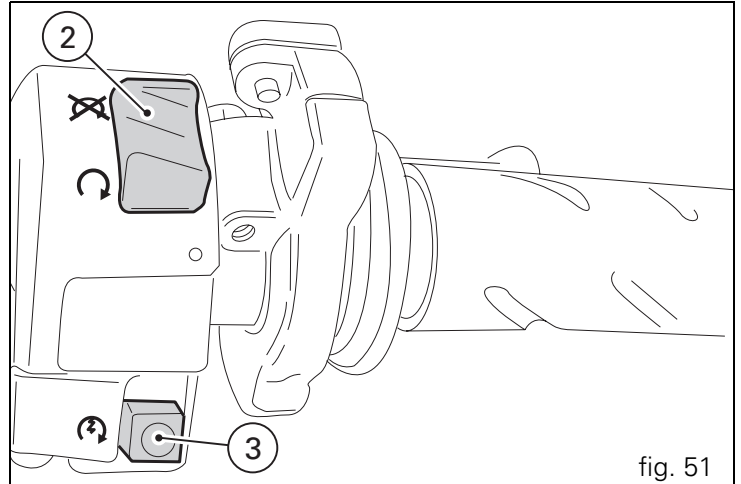

fig. 51
- 3) Make sure that the stop switch (2, fig. 51) is in the **O** RUN position, then press the starter button (3, fig. 51).